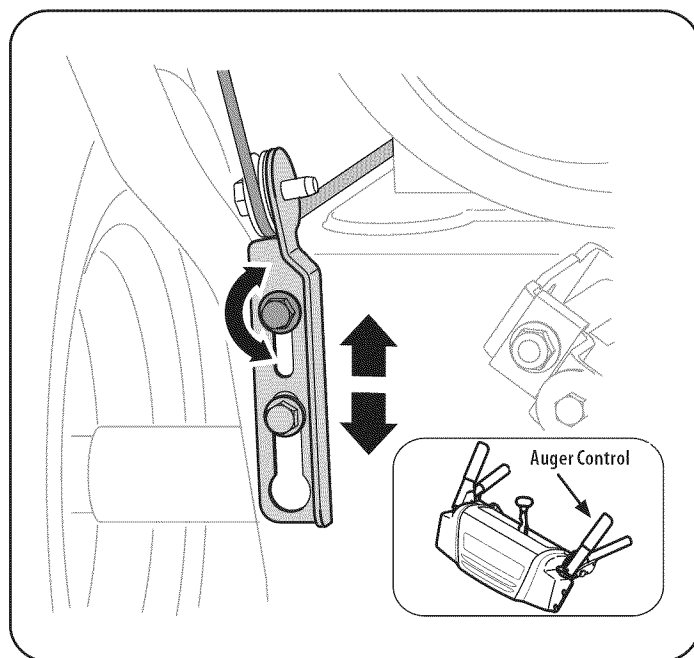

Figure 17
1. The auger control is located on the left handle. See Figure 17 inset. When the auger control is released and in the disengaged "UP" position, the cable should have very little slack. It should NOT be tight.
7. To readjust the control cable, loosen the upper hex bolt on the auger cable bracket. See Figure 17.